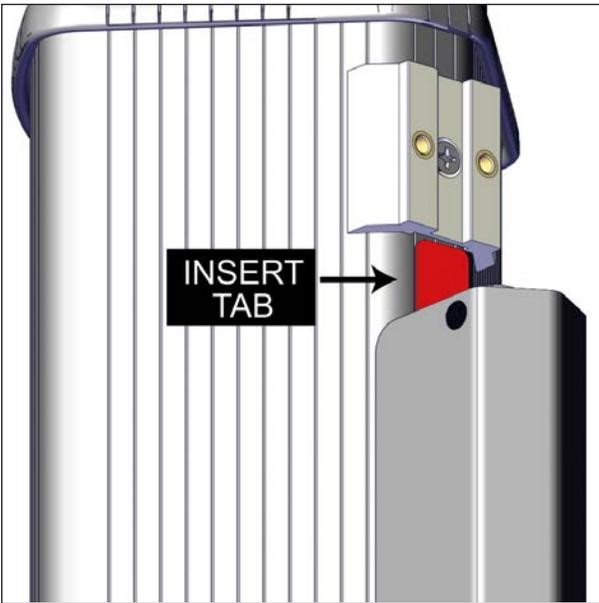

FIGURE 37: INSERT THE TAB BEHIND THE BRACKET
10. Pull the wire guard up to insert its tab behind the plastic holder, see Figure 37.